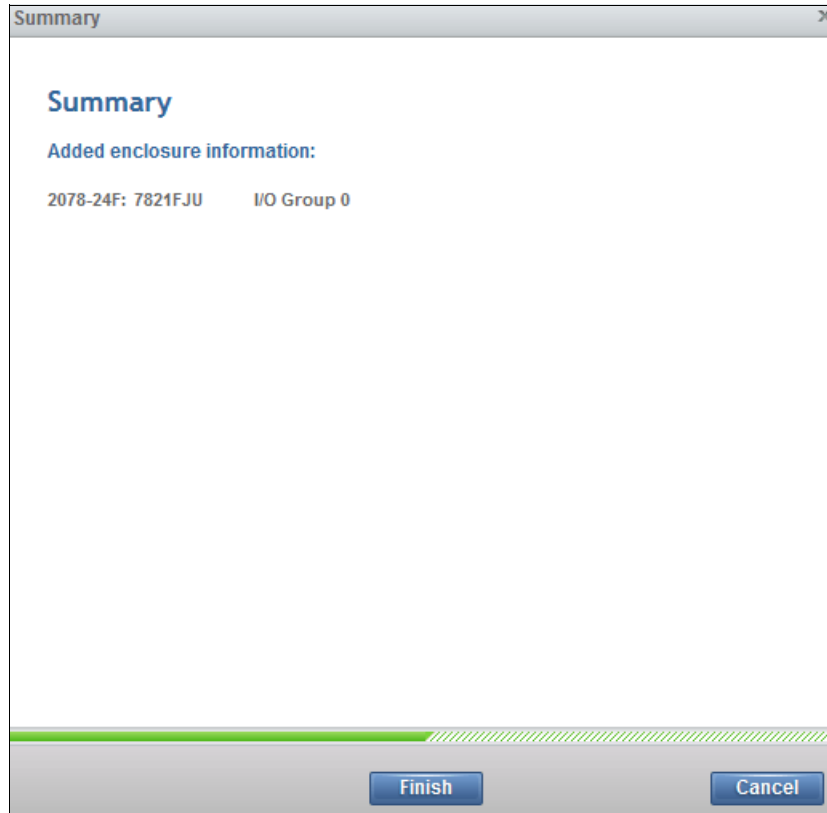

Figure 2-48 Added enclosure summary
4. The new expansion enclosure is added to the system, as shown in Figure 2-48. Click **Finish** to complete the operation.